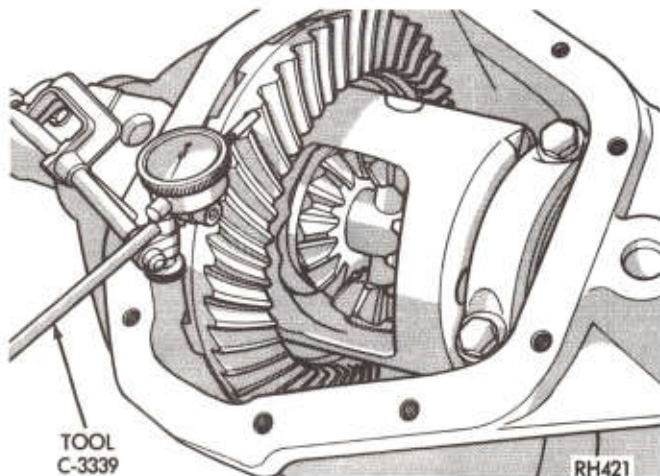

Fig. 27—Checking Ring and Pinion Gear Backlash
(17) Check ring gear and pinion backlash in three equally spaced points with dial indicator as shown in (Fig. 27).
(8) Attach a dial indicator to carrier and with indicator contact point contacting ring gear tooth (Fig. 27), measure the backlash between the ring gear and drive pinion.
(9) Check backlash at four equally spaced points around circumference of ring gear. Backlash must be held between .005-.009 inch (.127-.229mm) and cannot vary more than .003 inch (.076mm) between the four positions checked.